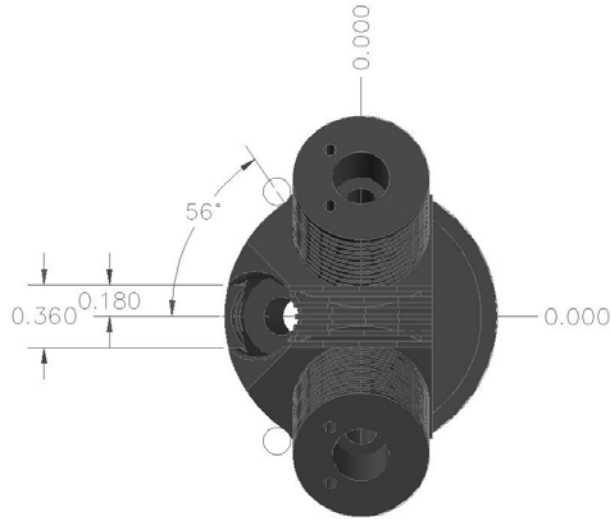

Figure 5
1. The excess material remaining on the front of the head is removed with the part set up on a rotary table as in Figure 5. Using 3/16" endmill, mill away the waste to the 1.563" diameter of the fins and as close to the valve towers as possible (approximately 56° each side of center).